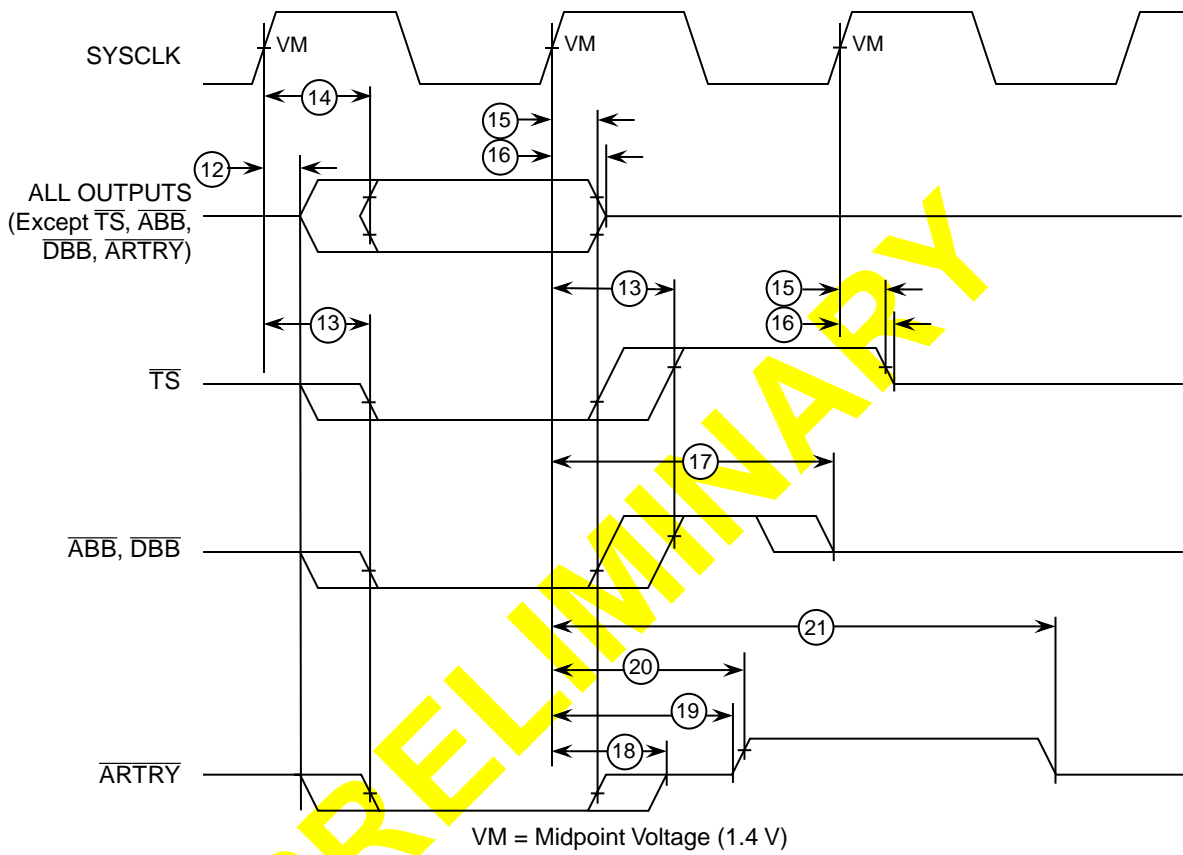

Figure 4. Output Timing Diagram
Table 8 provides the output AC timing specifications for the PID7v-EC603e as defined in Figure 4.
1. All output specifications are measured from the 1.4 V of the rising edge of SYSCLK to the TTL level (0.8 V or 2.0 V) of the signal in question. Both input and output timings are measured at the pin (see Figure 4).
Figure 4 provides the output timing diagram for the PID7v-EC603e.